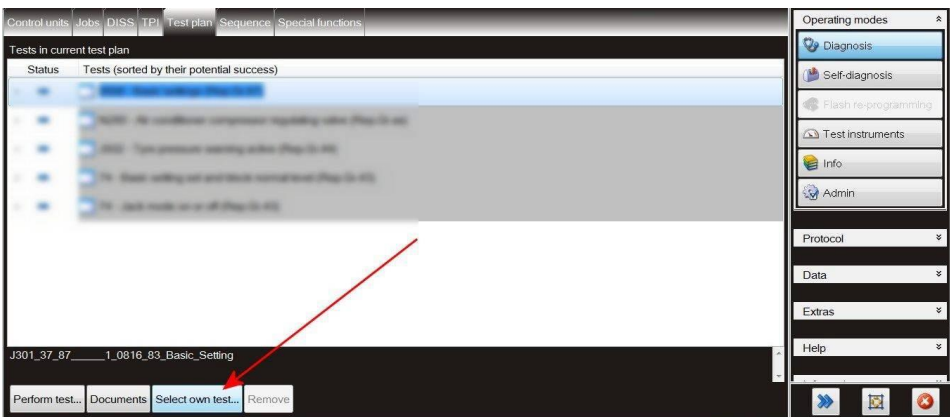

Figure 7
- Referring to Figure 7 – Navigate to Testplan – Select own test